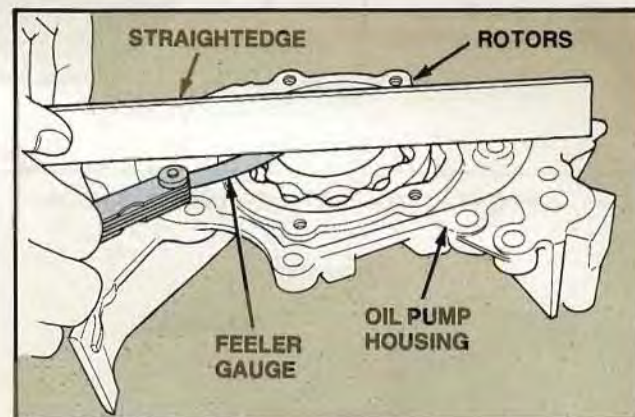

Figure 83. Rotor to Housing Side Clearance
4. With the rotor assembly installed in the housing, place a straightedge over the rotor assembly and the housing (Fig. 83). Measure the side clearance (rotor end play) between the straightedge and the rotor and outer race. Inspect the relief valve spring to see if it is collapsed or worn. Check the relief valve spring tension. If the spring tension is not with specification and/or the spring is worn or damaged, replace the pump. Check the relief valve piston for free operation in the bore.